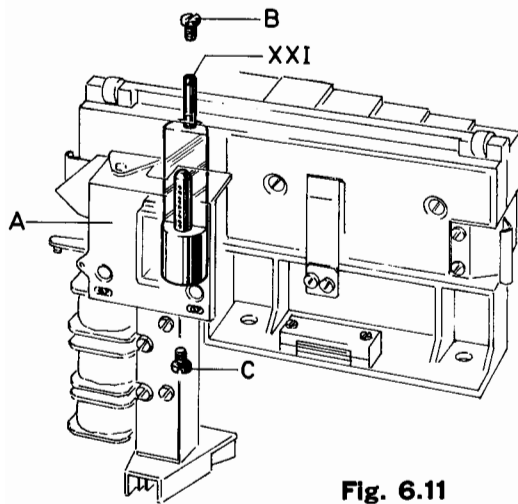

Fig. 6.11
1. Unscrew and remove the incremental motor and cover A as shown in Fig 6.11. See that the chad exhaust is not pulled along when cover A is removed.
Lubrication: Position grease nipple XXI as in Fig 6.11. Insert grease tube in nipple and pinch tube to press in grease. Continue pressing until all old grease is forced out on the other side. Remove excess grease and replace screws B and C.
1. Remove the incremental motor and cover A (Fig 6.11) and check that the capstan rotates easily. See that the chad exhaust is not pulled out when cover A is removed.